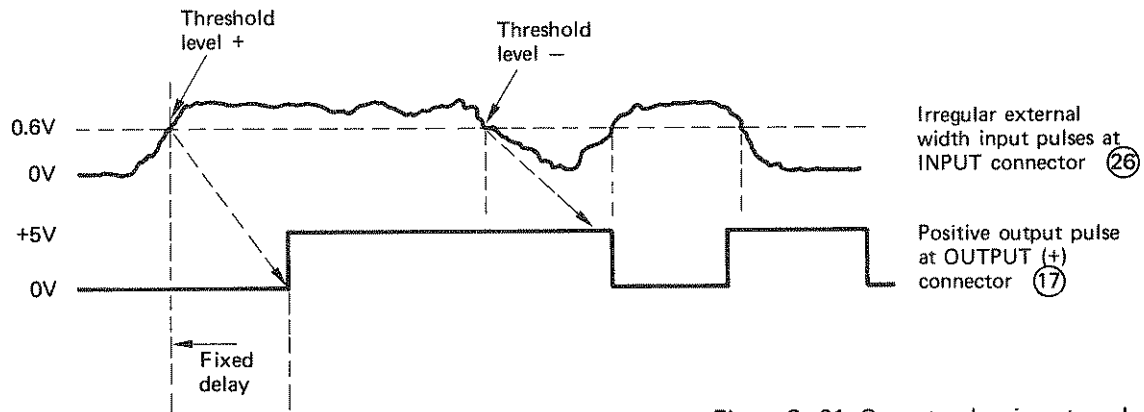

Figure 3-21. Output pulses in external width mode
- Connect the external signal to the INPUT connector (26) on the rear panel of the 8013B.
- Set the Mode Selector switch (25) to EXT WIDTH.
3-53 The output pulses should appear at the OUTPUT (+) connector (17) as shown in Figure 3-21.